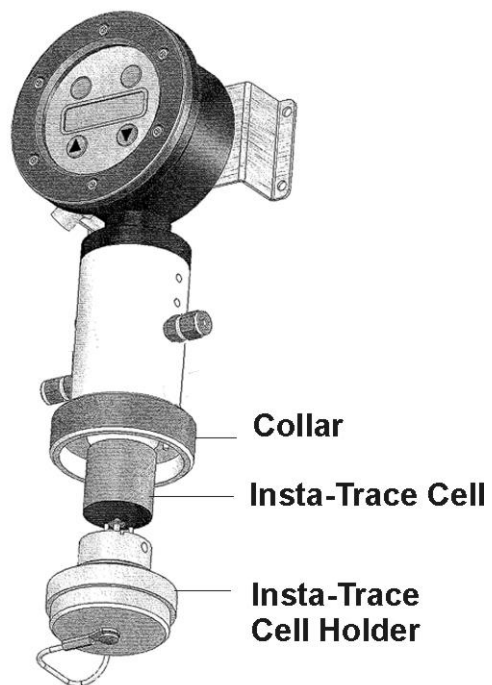

Figure 5-2: Cell Removal Insta-Trace
- Remove the Insta-Trace cell holder by unscrewing the collar (see Figure 5-2).
- Push the cell holder firmly in place while rotating the collar (see Figure 5-2). The collar should be tightened finger-tight only.